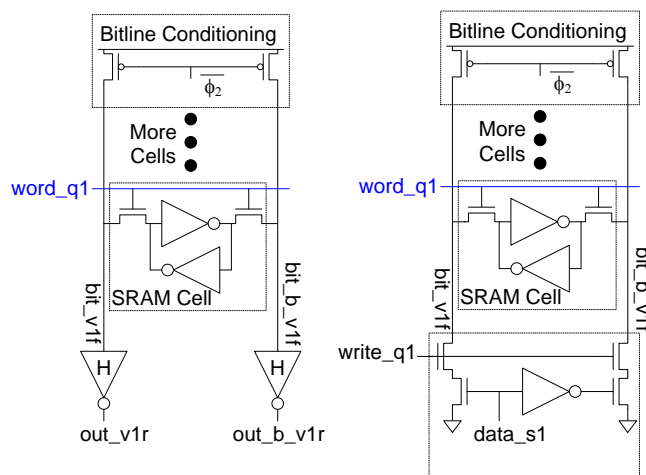

Fig. 15
15. Sketch the timing diagrams of ϕ_1 , ϕ_2 , word_q1, birt_v1f, and out_v1r to explain the SRAM operations in Fig. 15. (5%)